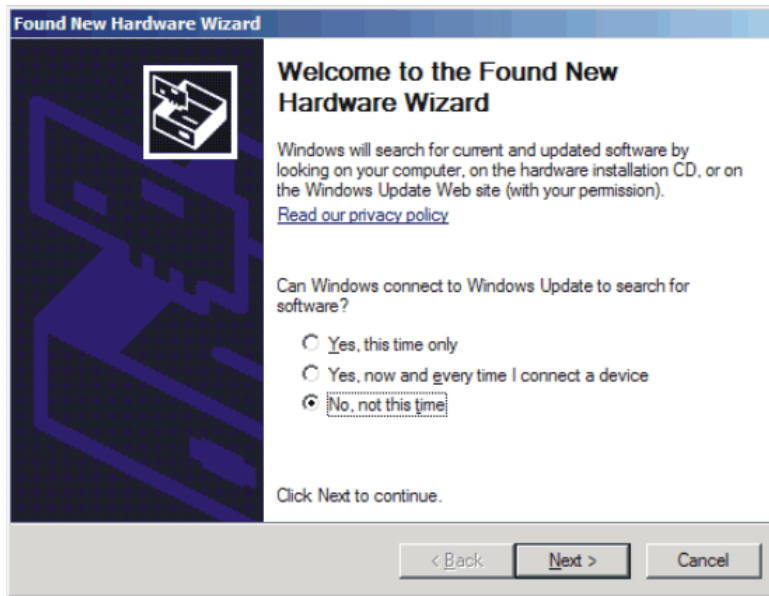

Figure 23. Install New Driver Wizard Screen 1
4. If you have not yet loaded the operating system drivers, Windows will display the Windows *Install New Driver Wizard* sequence (illustrated in Figure 23 through Figure 27). Accept the default settings.